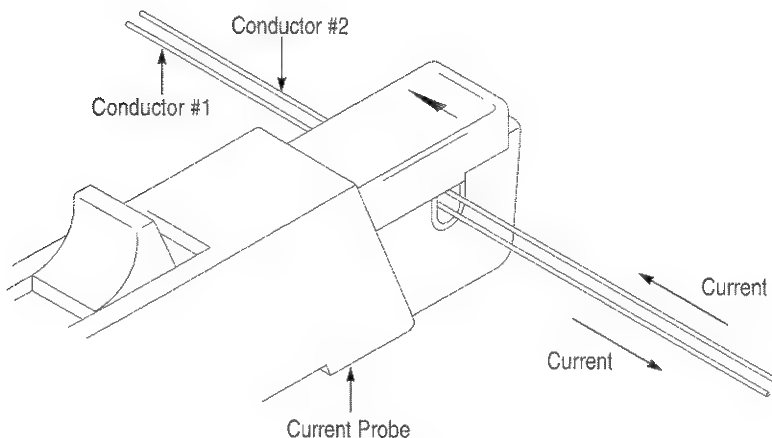

Figure 3-1: Measuring Differential Current and Nulls
1. Orient the two conductors under test so that the polarities oppose each other. Clamp the current probe around the two conductors as shown in Figure 3-1.